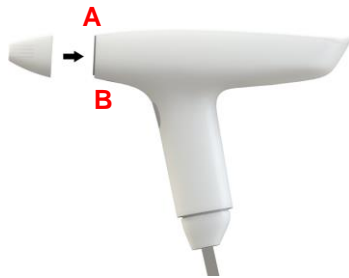

Figure 4-4
Refer to Figure 4-4: to connect a tip to the applicator, hold it in the correct orientation – with the embossed "T" facing the top of the applicator and aligned with the top of the applicator – and push it onto the applicator's connection port (A) until you feel it click.